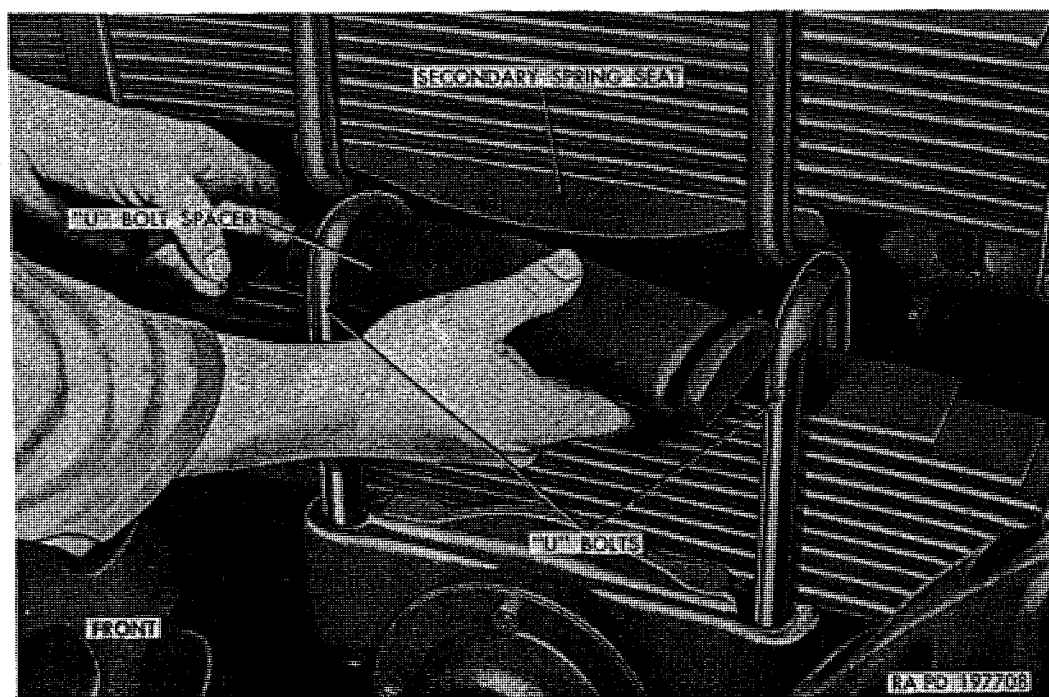

Figure 290. Removing or installing main spring U-bolt spacer.
- (3) Drive U-bolts up against auxiliary spring seat; then remove main spring U-bolt spacer (fig. 290).
- (2) Remove jack from under forward rear axle. Position spring on spring seat assembly; then place U-bolts over spring and through spring seat.
- (3) Install U-bolt spacer (fig. 290). Place jack under frame bracket assembly and raise bracket until spring rests on spring seat.
- (4) Install U-bolt nuts and tighten to 375 to 400 pound-feet torque. Remove jack from under frame bracket.
- (5) Connect upper torque rod to rear rear axle bracket.